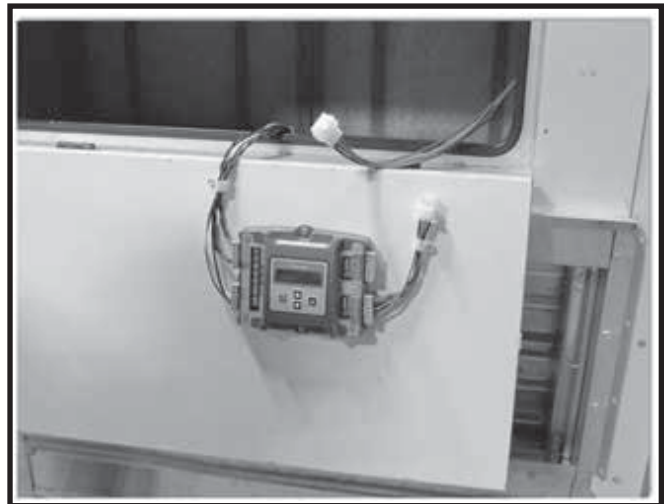

Figure 3. Unit control mounted on back side of filter access door
9. Controller mounts on back side of filter access door in pre-existing mounting holes. Attach cable ties and mount using existing holes. See Figure 3.